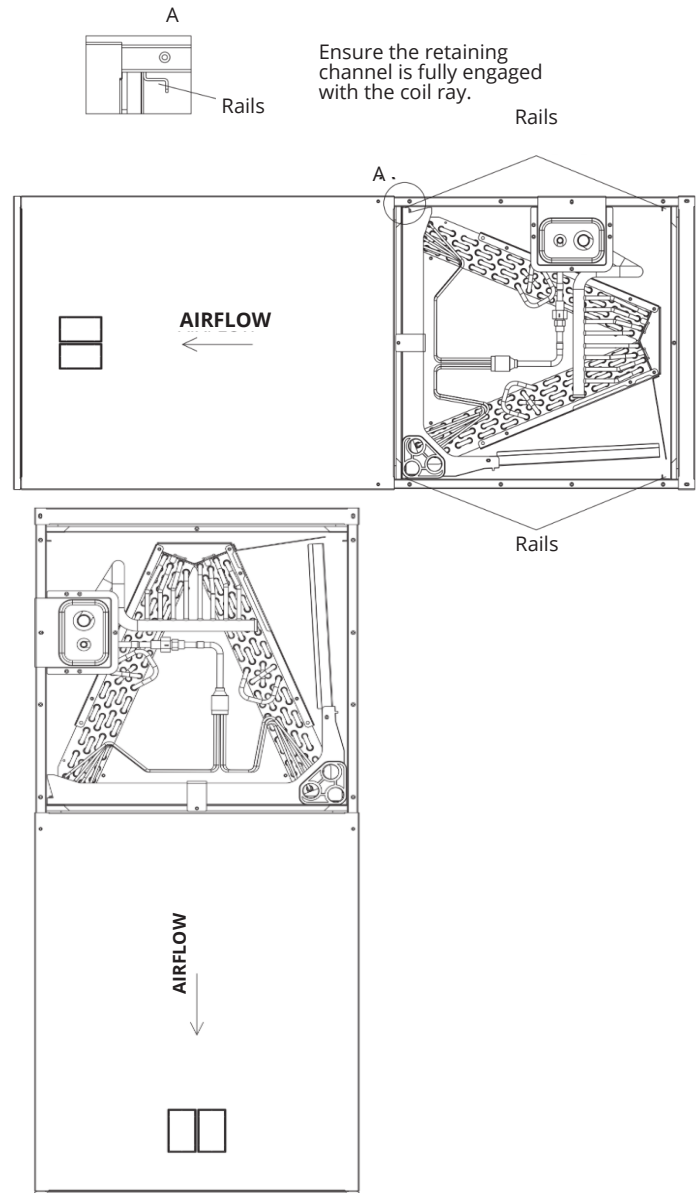

Figure 3-2 Vertical Downflow & Horizontal Left Airflow
A vertical upflow unit may be converted to vertical downflow. See Figure 3-2.
1. Rotate unit into the downflow position with the coil compartment on top and the blower compartment on the bottom. See Figure 3-2.
2. Reinstall the indoor coil 180° from the original position. Ensure the retaining channel is fully engaged with the coil rail. See Figure 3-2.